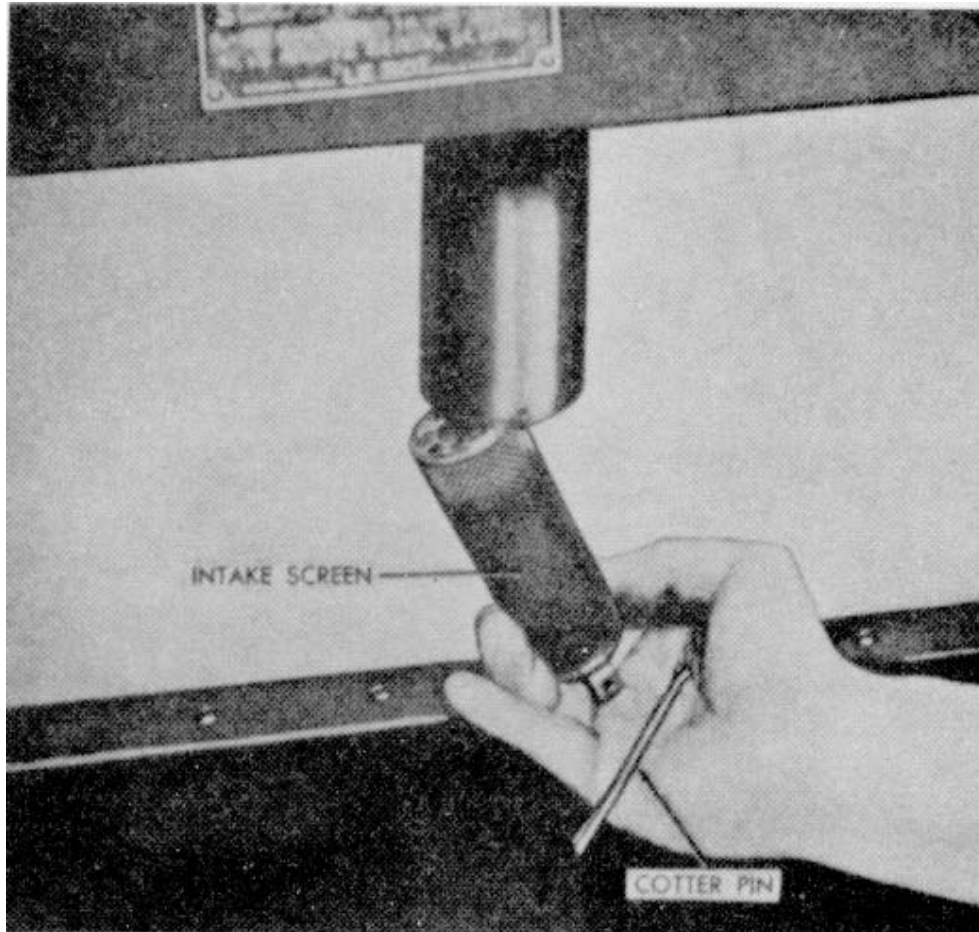

Figure 99. Removing the oil intake screen.
- (1) Remove the lower oil pan as instructed in paragraph 217a.
- (2) Pull out the long cotter pin, permitting the intake screen to drop down out of the suction line connection (fig. 99).
- (1) Insert the intake screen up into the suction line connection. Aline the holes in the screen tabs with those in the lower edge of the connection and insert the cotter pin (fig. 99).